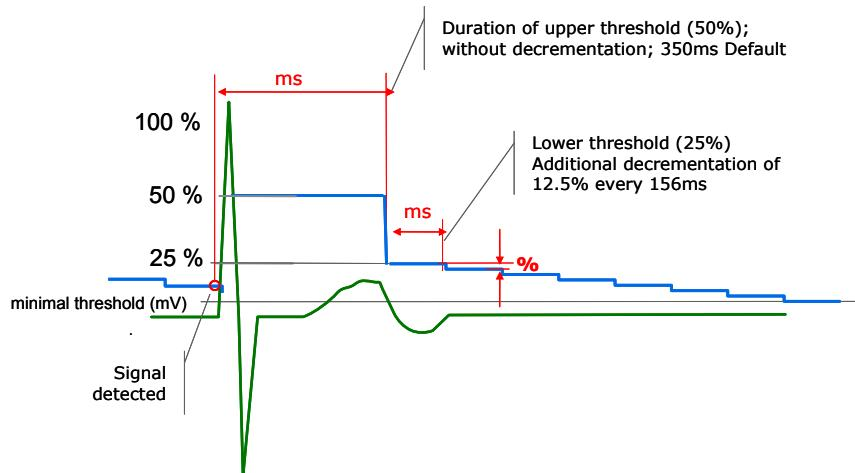

Figure 34: Automatic Sensitivity Control (ASC) with standard sensitivity (right ventricle)
**Figure 34** illustrates ASC with the Standard sensitivity programmed. The R-wave is tracked and determined to be 8.0 mV at its peak. The amplitude is measured in the first 110 ms of the complex. Following the sensed event the upper threshold (UT) is set to 4.0 mV (i.e., 50% of the measured R-wave). After the Upper threshold duration after sensing, the device decreases sensing to the lower threshold (LT), which is 2.0 mV (or 25% of the R-wave amplitude). It remains at the lower threshold for 156 ms and then decrements by 12.5% (or 1.75 mV) every 156 ms. However, the minimum threshold (i.e., maximum sensitivity) is never violated.